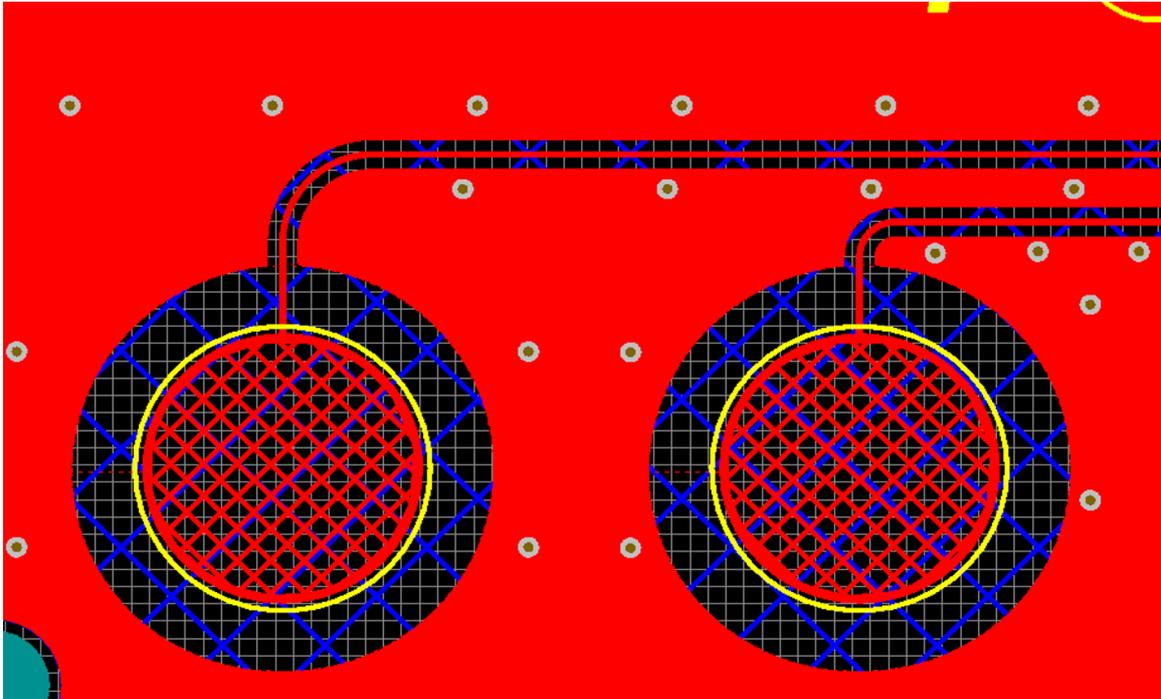

Figure 7.1: Top Layer in Red and Bottom Layer in Blue
- > This optimises user coupling with the button while maximising the GND coverage without adding too much parasitic capacitance below the button, see Figure 7.1 below.